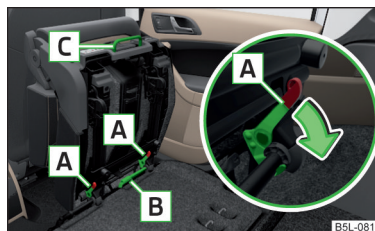

Fig. 64
- Unlock the folded seat by pressing seat locks » Fig. 62 on page 72 **A** in the direction of arrow » Fig. 64.
- › Remove the middle seat » Fig. 64 on page 72.
- › Fold the outer seat forwards and unlock » Fig. 64 on page 72.